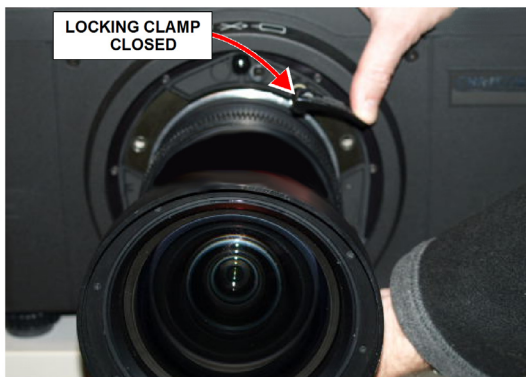
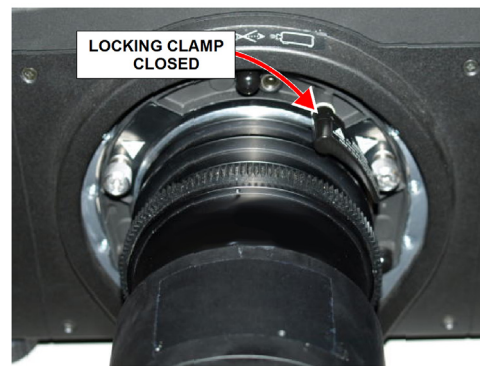

FIGURE 2-3
FIGURE 2-4
4. While holding the lens flat against the lens mount, rotate the lens clamp clockwise to lock the lens assembly in place. See Figure 2-3 & Figure 2-4.